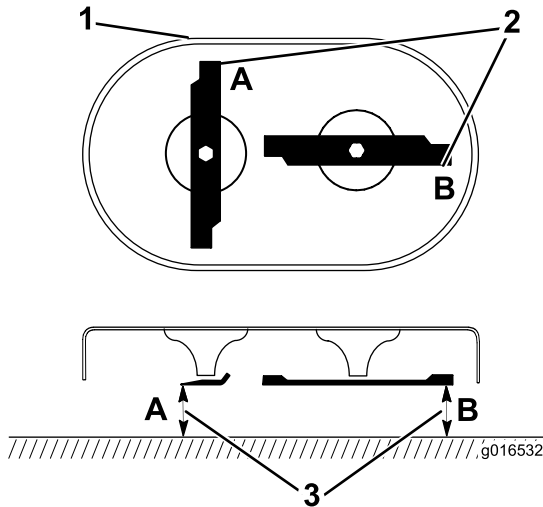

Figure 41
1. Rotate the blades to the position shown in Figure 41.
2. Measure from a level surface to the cutting edges at locations **A** and **B** (Figure 41), and record both dimensions.
3. Rotate the blades so that their opposite ends are at locations **A** and **B** (Figure 41).